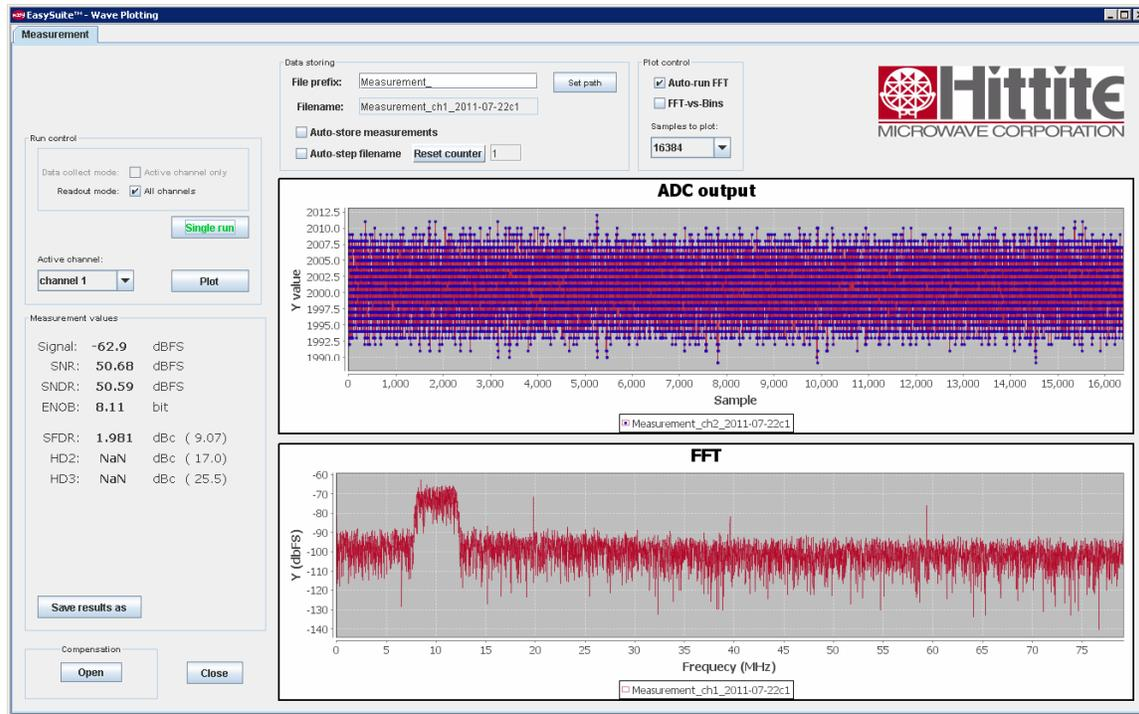

Figure 23. Observed result after 20 dB of gain in the first VGA
- Clicking on 'Single run' in the in the 'EasySuite' 'Measurement' tab window now shows that the resulting signal (Figure 23) is indeed amplified. The utilized ADC dynamic range is larger than previous (from 1190 to 2012), while the DC is still around 2000. Clearly, more gain can be applied.